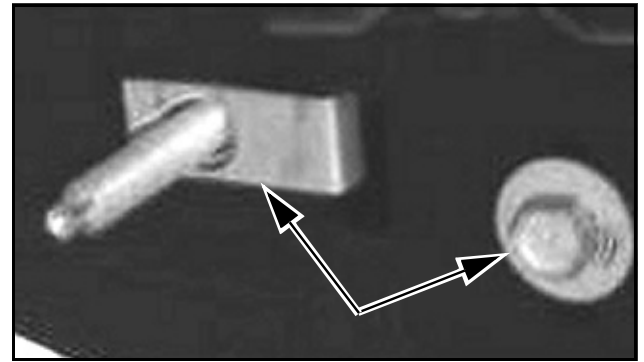

Figure 4
4. Temporarily remove the bottom intercooler bracket, by removing two fasteners (one per side). Its recommended to have the intercooler securely held in place while the bottom bracket is removed. Then remove all the hardware used in the two holes. The type of hardware found in holes may vary from shown picture. i.e Some trucks may use a bolt, rather than a stud sticking out from the frame as seen here.(See Figure 4)